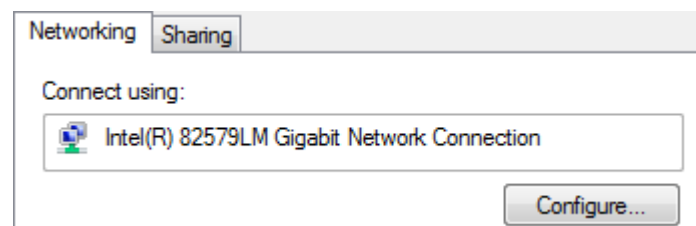

Figure 109: Access to network interface card driver settings
3. Press the *Configure* button below the name of the physical network interface, shown in Figure 109.